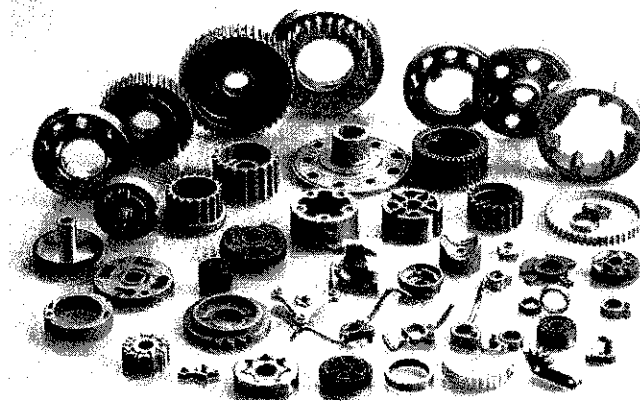

Figure 3(a) / Rajah 3(a)
- (d) Figure 3(d) above shows an automotive part produced by powder metallurgy process.